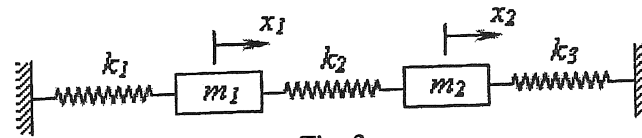

Fig. 3
- 7 (a) Find the natural frequencies and normal mode (amplitude ratio's) for the system shown in Figure 3 considering,